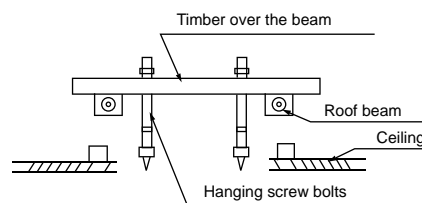

Fig.4-1
4.1 The units may be mounted vertically, provided that the correct clearances for positioning are maintained. (Refer to Fig. 4-1)